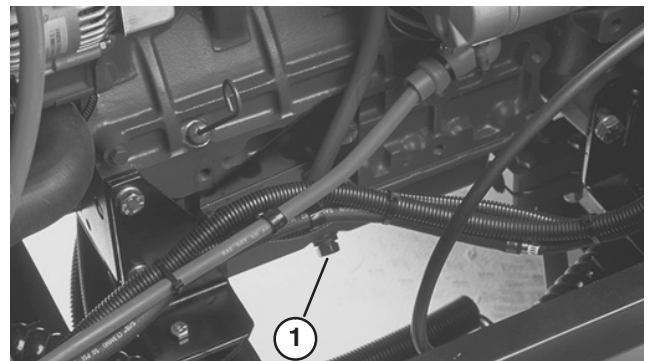

Figure 30
1. Remove drain plug (Fig. 30) and let oil flow into drain pan. When oil stops, install drain plug.